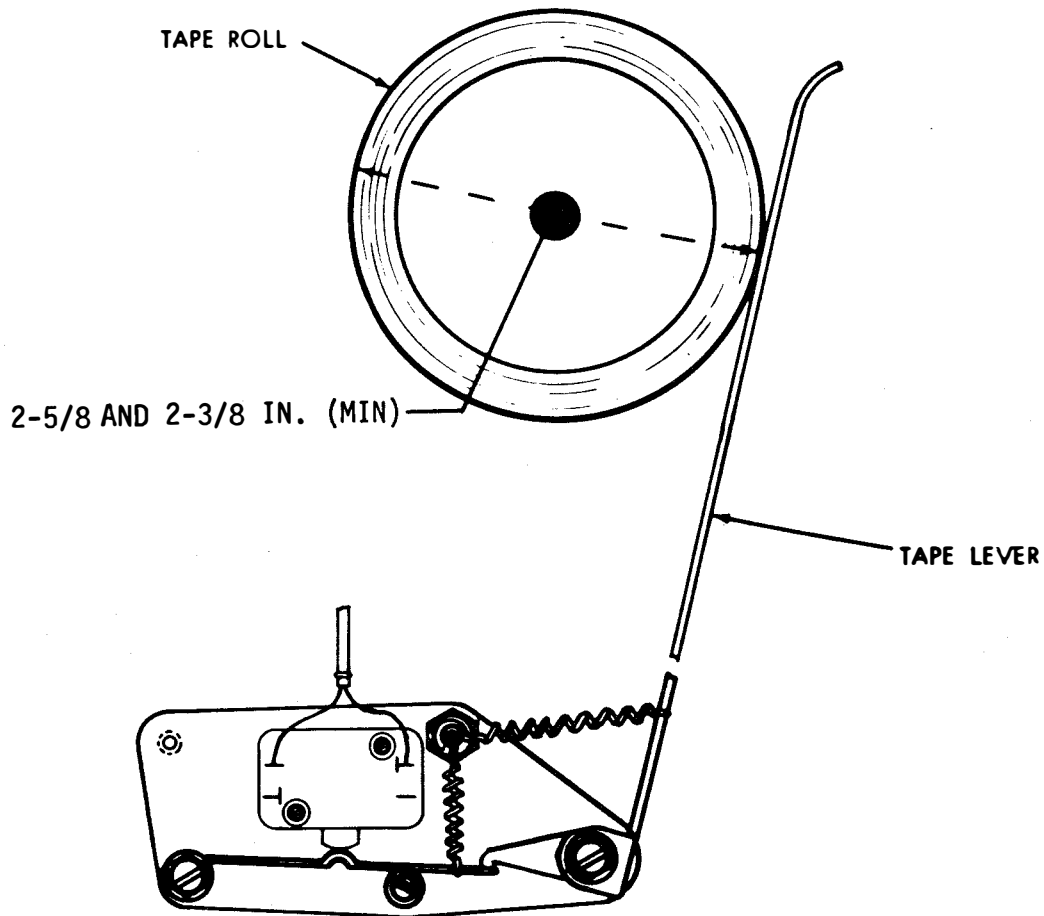

Figure 6-127. Low Tape Mechanism Switch
- (h) To adjust: If necessary, refine adjustments in paragraphs 6-4.1f(1) and (2) above, Universal Bail Latchlever (paragraph 6-4.2g(1)), and recheck Universal Bail Extension (paragraph 6-4.2g(3)).
- (1) Refer to figure 6-127.
- (2) Switch should operate when tape roll diameter is between 2-5/8 and 2-3/8 inches.
- (3) To adjust, loosen mounting screws and position switch assembly.